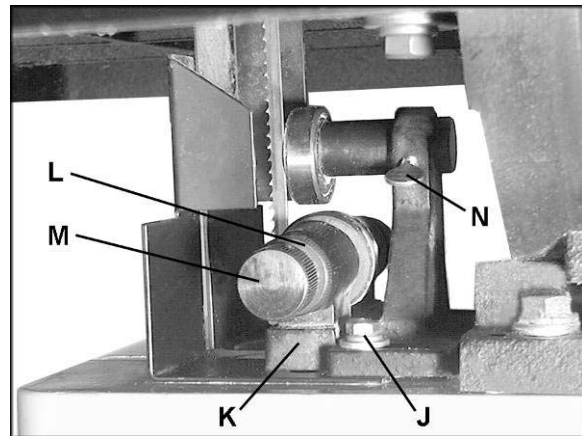

Figure 20
3. Loosen two hex cap screws (J, Figure 20).
4. Adjust the guide bracket (K, Figure 20) so that the front of the guide wheels are just behind the blade's gullet (curved area at the base of the tooth).
5. Tighten the two hex cap screws (J, Figure 20).
6. Loosen lock ring (L, Figure 20) on the guide wheel assembly.
7. Rotate the knob (M, Figure 20) until the guide wheel rests lightly against the blade. Do not force the guide wheel against the side of the blade.
8. Tighten the lock ring (L, Figure 20).
10. Loosen thumb screw (N, Figure 20).
14. When adjustments to the support bearing are complete, tighten thumb screw (N, Figure 20).